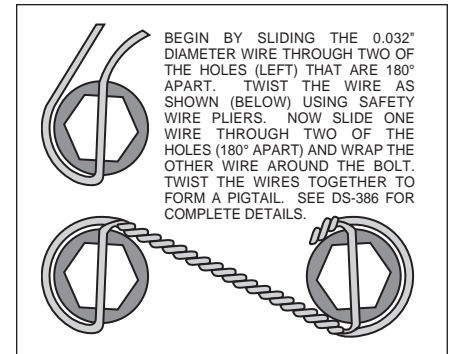

Figure 3. Safety Wire Diagram
•With the larger I.D. side of the rotor (7) facing away from the hat (8), bolt rotor (7) to hat (8) through the backside of the rotor using bolts (9), and washers (10). Torque bolts (9) in an alternating sequence to 85 **in-lb**. Safety wire bolts (9) using standard 0.032 inch diameter stainless steel safety wire as shown in Figure 3. Please refer to Wilwood's data sheet DS-386 (available at [www.wilwood.com/pdf/ds386.pdf](http://www.wilwood.com/pdf/ds386.pdf)) for complete safety wire installation instructions. Slide the rotor/hat assembly onto the spindle. Check to be sure the hat seats squarely against the hub. Install a couple of lug nuts (finger tighten) to keep the rotor/hat assembly in place while continuing with the installation.